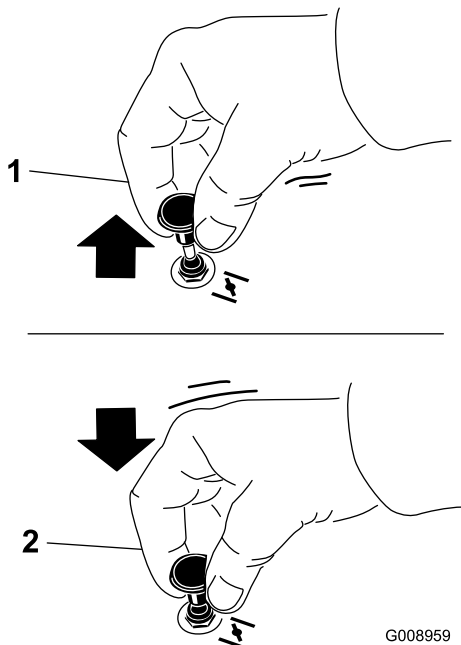

Figure 12
2. Pull up on the choke knob to engage the choke before using the ignition switch (Figure 12).
3. Push down on the choke to disengage the choke after the engine has started (Figure 12).